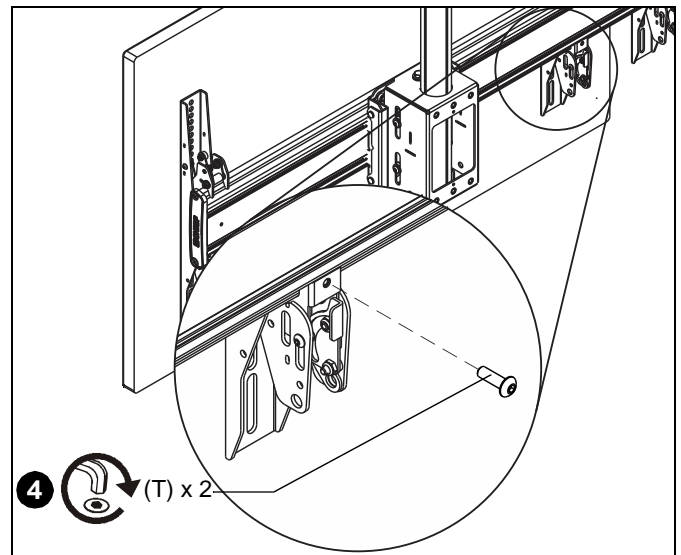

Figure 10
4. Fasten bracket against mounting rail using one 10-24 x 5/8" button head cap screw (T). (See Figure 10)